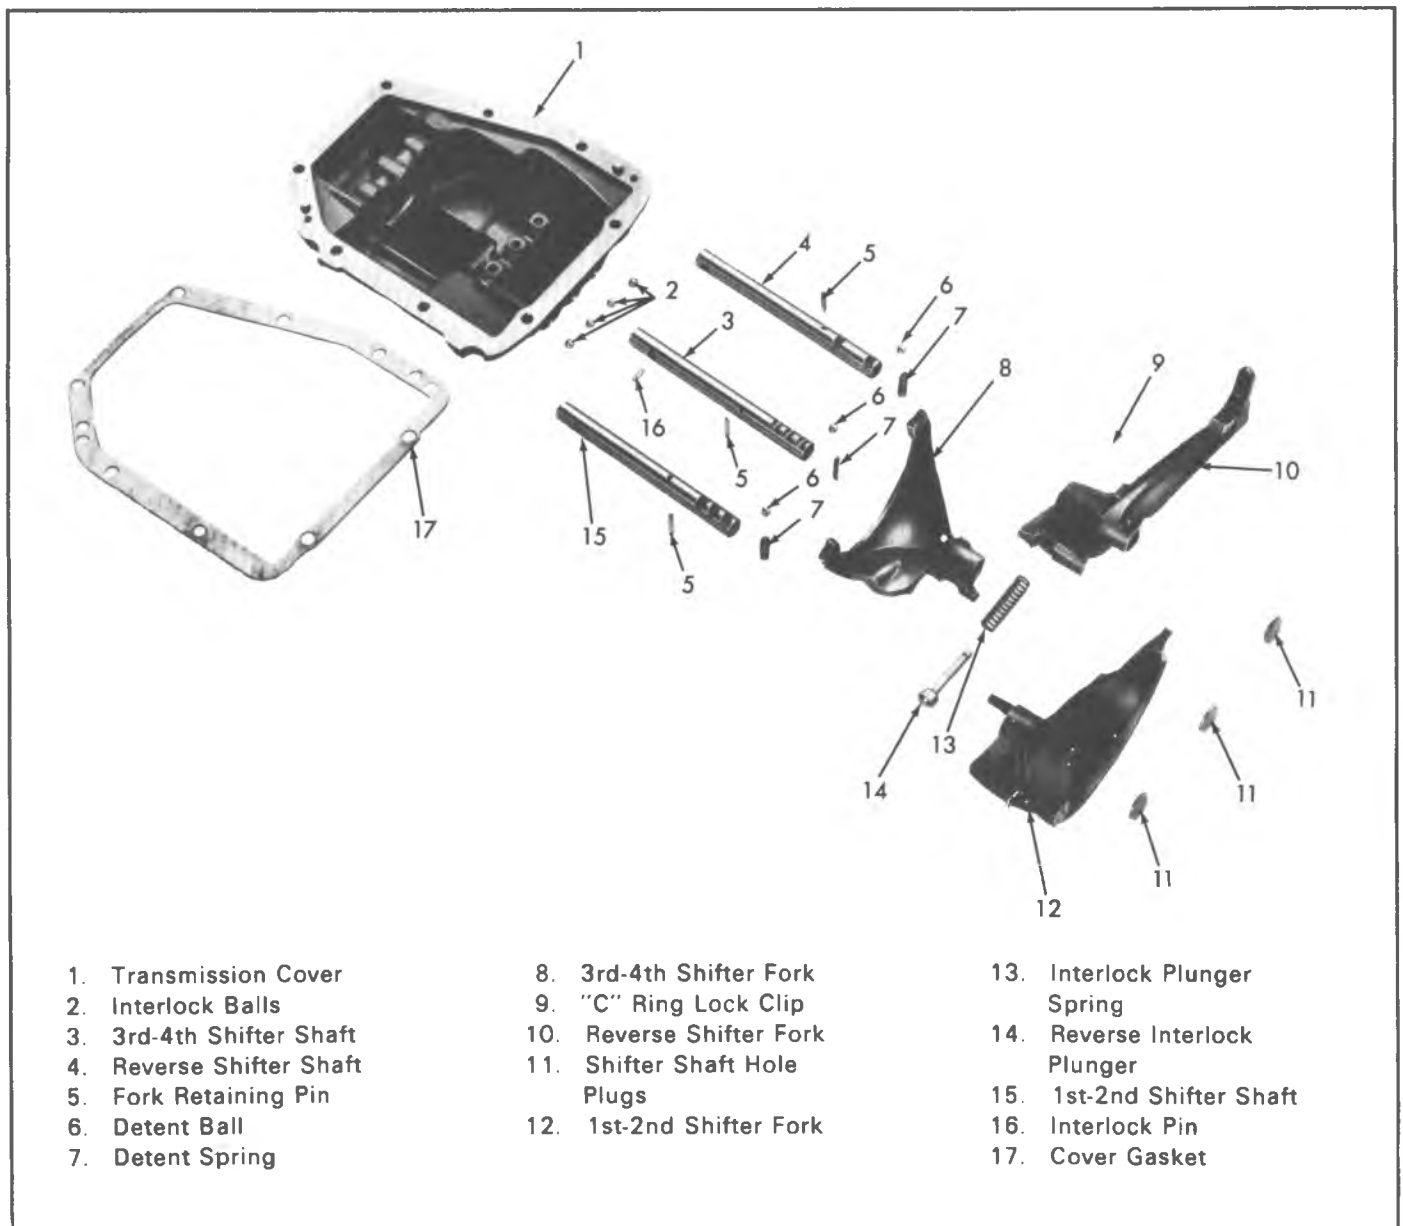
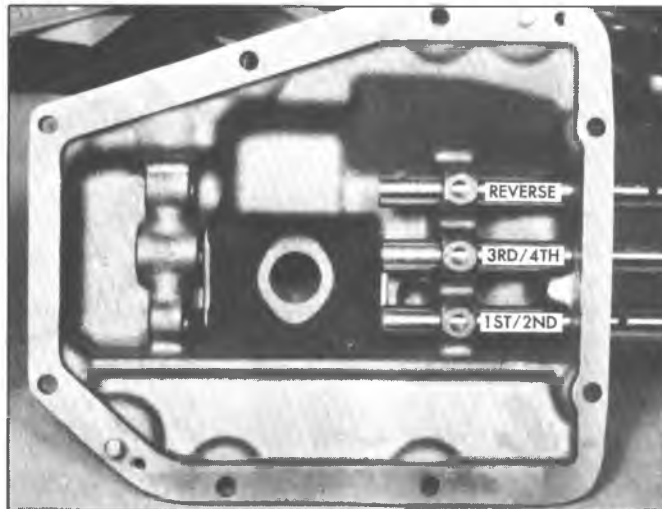

Fig. 1X—Cover Assembly Exploded View
Fig. 2x-Shifter Shaft Installation
#### ASSEMBLY (Fig. 1X)
1. In reassembling the transmission cover, care must be used in installing the shifter shafts. They should be installed in the order shown in Fig. 2X, namely, reverse 3rd-4th, and 1st-2nd. Figure 1X illustrates difference between shafts.
3. Start shifter shafts into cover; depress detent balls with small punch and push shafts on over balls. (See Fig. 2X). Hold reverse fork in position and push shaft through yoke. Install split pin in fork and shaft; then, push fork in neutral position.